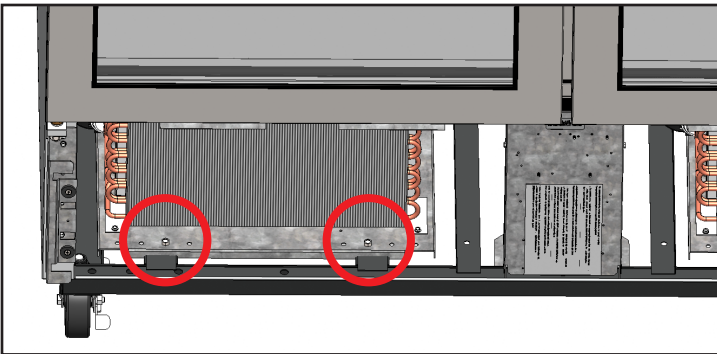

Fig. 6. Remove condenser base bolts.
5. Remove the condenser base bolts. See fig. 6.